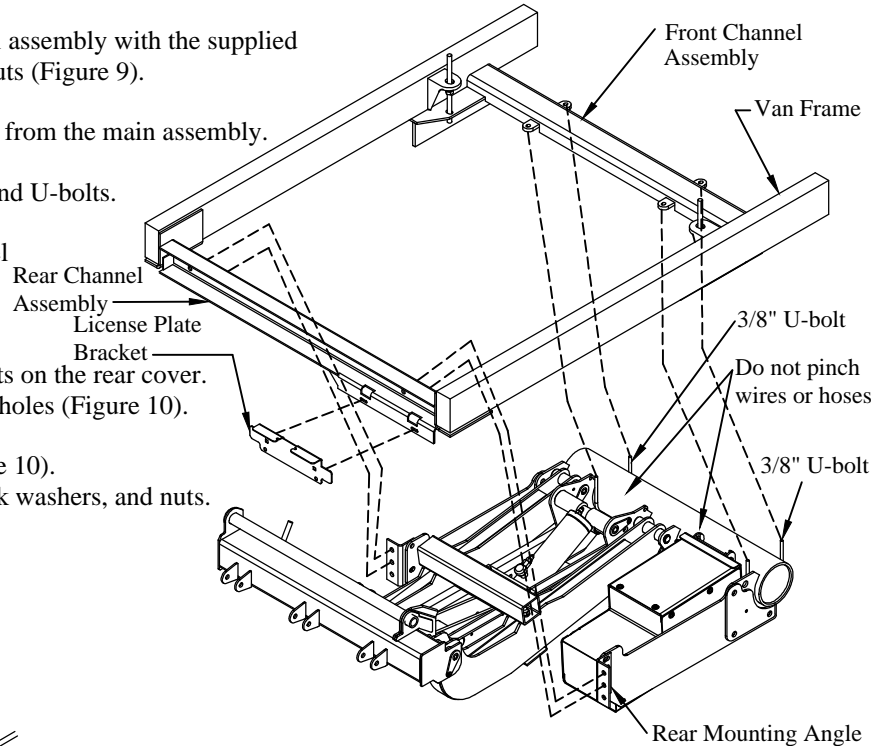

Figure 9: Main assembly position on frame.
- 5. Attach** the 3/8" U-bolts to the front channel assembly with the supplied four (4) flat washers, lock washers and nuts.
- 6. Attach** the rear mounting angles to the rear channel assembly with the supplied four (4) 1/2" x 1-1/4" bolts, lock washers, and nuts (Figure 9).
- 10. Install** the license plate bracket on the rear channel assembly (Figure 9). Use the two (2) supplied 1/4-20 flat head bolts and keps nuts.